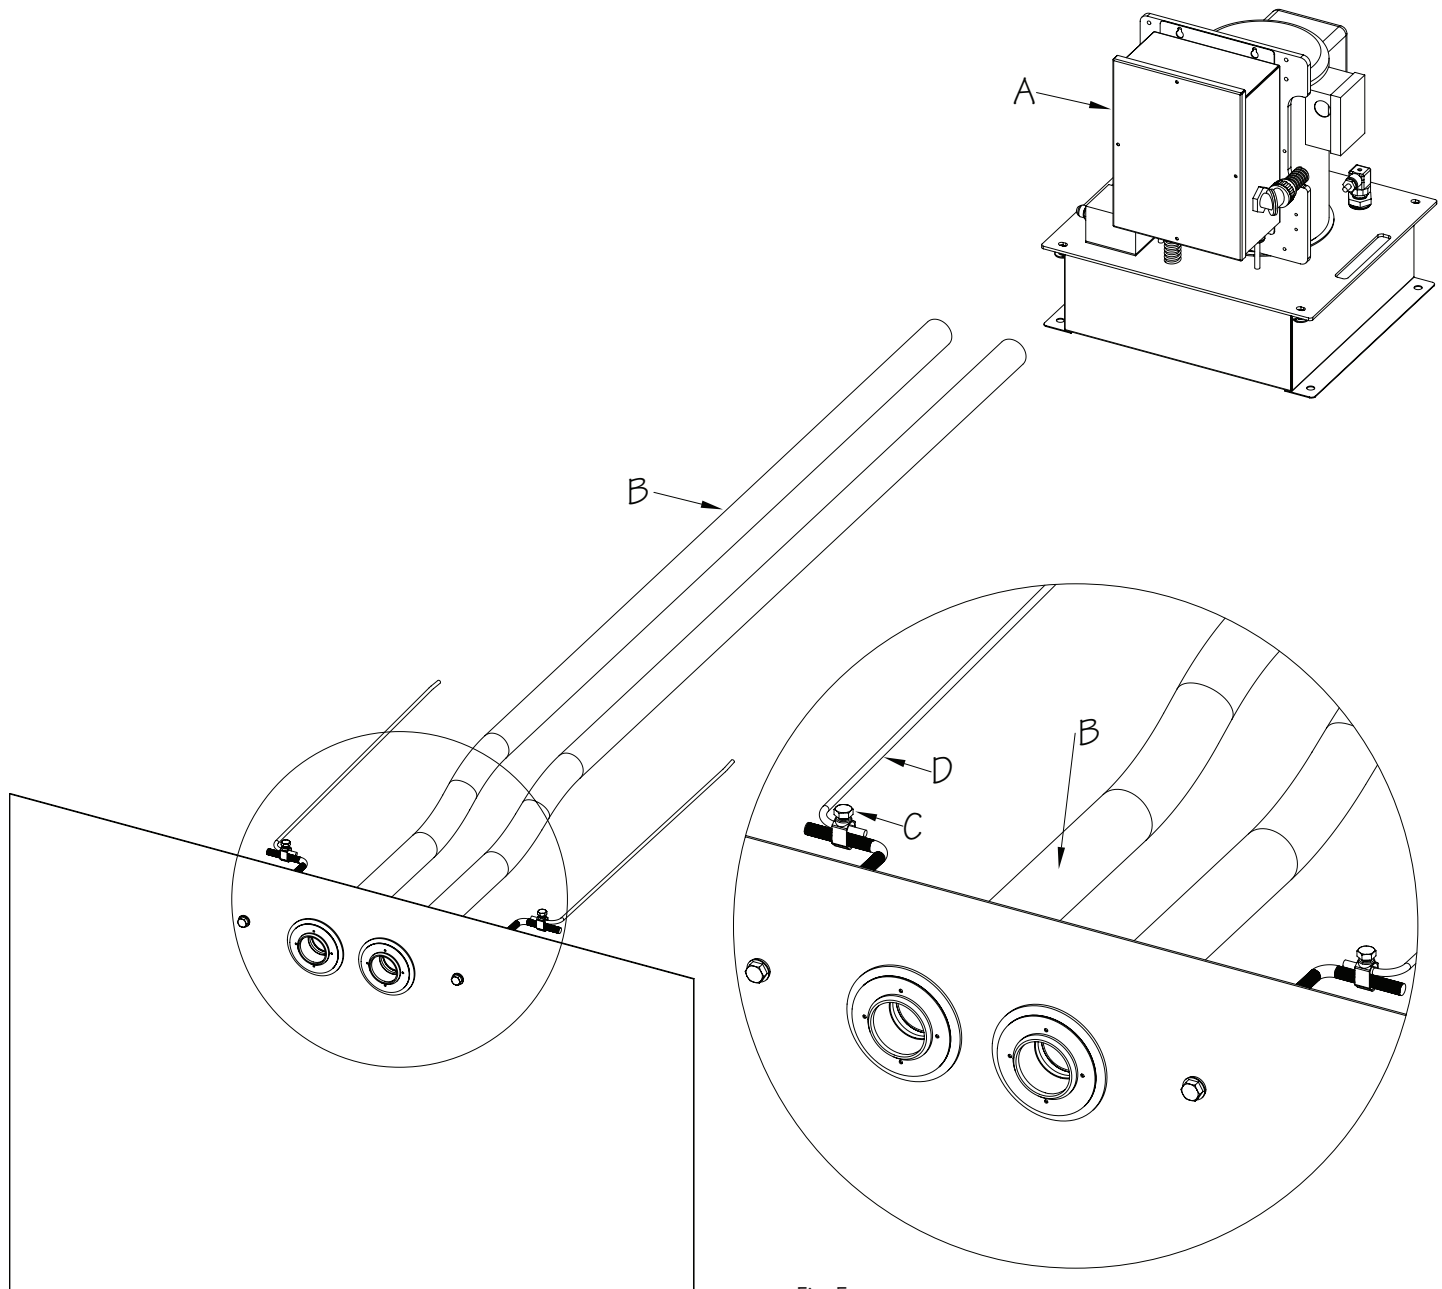

Fig. 5
- The location of the Hydraulic Power Unit (A) should be determined at this point in the installation. Unroll the lengths of 1-1/2" (38mm) flexible PVC Pipe (B) from the back of the pool wall to the Hydraulic Power Unit. **The conduit run MUST travel above the pool's waterline.** Any bends in the pipe MUST be gradual sweeps and not sharp bends to allow the hydraulic hoses to be easily fed through each conduit. Glue the PVC Pipes into the adapters attached to the Star Thru-Wall Fittings (Fig. 5).
The Threaded Rods MUST be tied into the pool's bonding grid. Install a Bonding Clamp (C) onto each rod. Attach a #8 Solid Copper Wire (D) to each Bonding Clamp and then run these wires to a connection that is incorporated into the pool's bonding grid (Fig. 5).